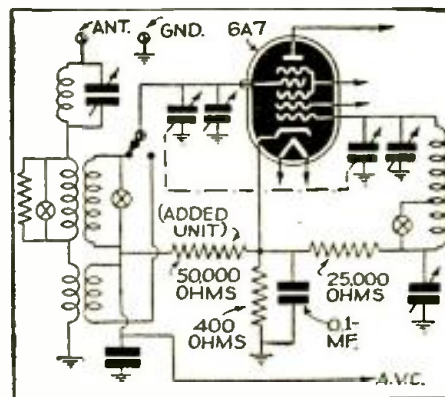

Fig. 5. Resistor added, strengthens signal response.
Fig. 5. Aligning high-frequency bands. Example: (Assume alignment desired at 14.2 mc.) (1) Divide 14.2 mc. by some usable harmonic number say 13. $14.2 \text{ mc.} \div 13 = 1,093 \text{ kc.}$ (2) Add one unit to harmonic number $13 + 1 = 14$. (3) Slide scale "B" until 14 coincides with 1,093 kc., and 13 coincides with 1,015 kc. (4) Adjust high-frequency trimmers until a signal is received at 14.2 mc. dial setting when osc. is alternately tuned to 1,015 kc. and 1,093 kc.